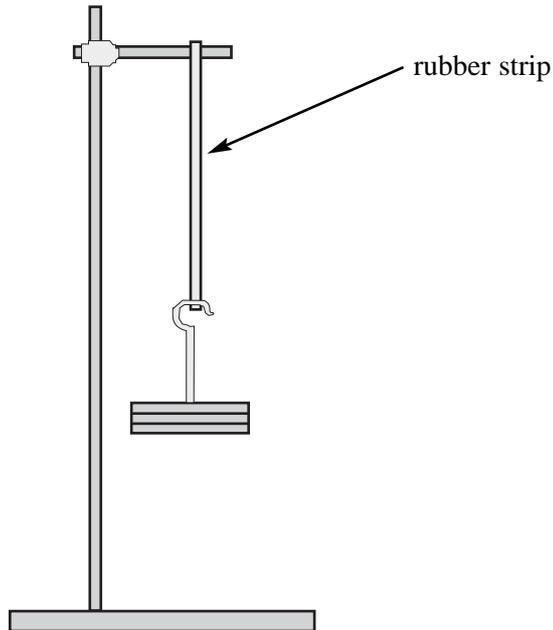

Figure 1
- 1 You are to investigate the oscillations of a loaded rubber strip shown in **Figure 1**.